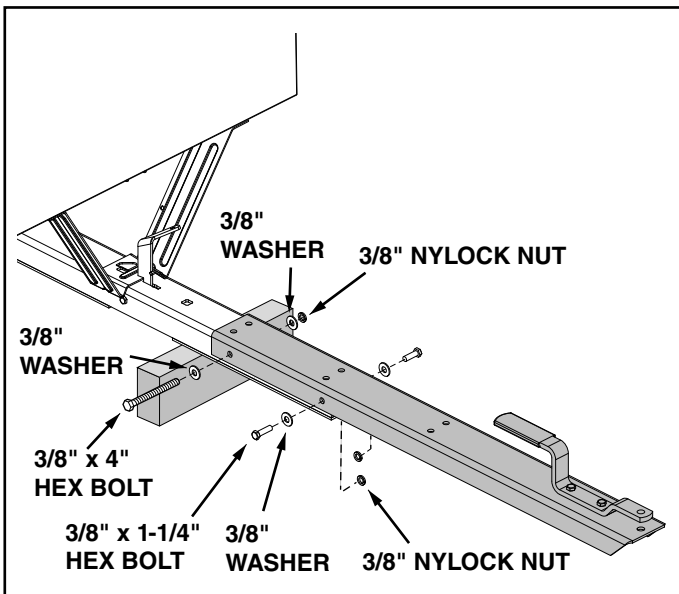

FIGURE 5
- Assemble the front tongue on top of the rear tongue. In the front set of holes, attach using two 3/8" x 1-1/4" hex bolts, four 3/8" washers, and two 3/8" nylock nuts. In the rear holes use one 3/8" x 4" hex bolt, two 3/8" washers, and one 3/8" nylock nut. See figure 5.